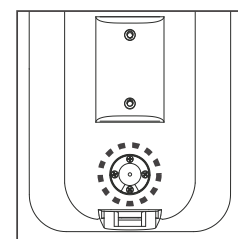

FIGURE 7:
4. Feed the speaker wires from the bracket into the wire entry grommet on the back of the speaker, through the wire tunnel and out the opening on the speaker's front panel (see figure 7).